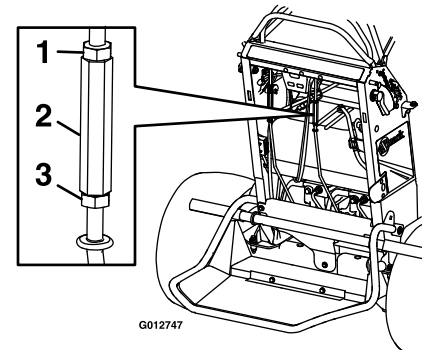

Figure 32
6. Loosen the lock nuts on the turnbuckle on the RH motion control (as viewed from the rear of the machine — see Figure 32). With the right motion control in the neutral lock position, hold the LH motion control in the position determined in step 4 or 5. Rotate the turnbuckle until the LCD indicator comes on.